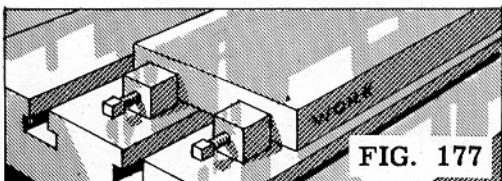

FIG. 177
7. Place the two stops, type (B), in the holes in the table (Fig. 177). Then, after the work has been located in relation to the stops, the screws can be adjusted to compensate for any unevenness of the edge.